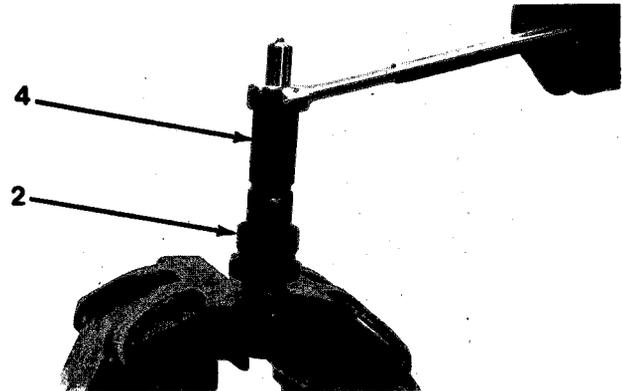
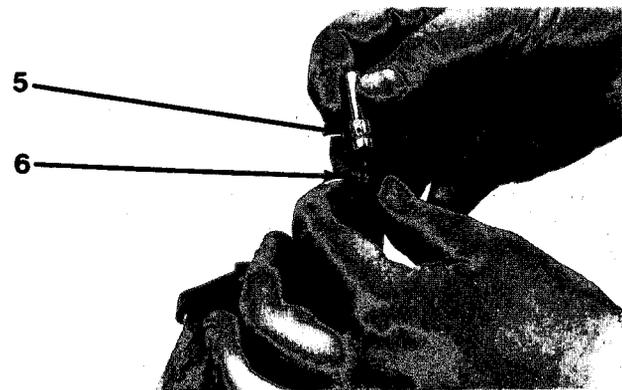

Figure 7-2
Figure 7-3
1. Using a brass wire brush and a piece of hardwood dipped in diesel fuel, clean carbon residue from injector nozzle (2, Figure 7-2).
2. Position injector nozzle (2) in a soft-jawed vise and remove nozzle retainer (4).
3. Remove nozzle tip (5) and intermediate plate (6, Figure 7-3).